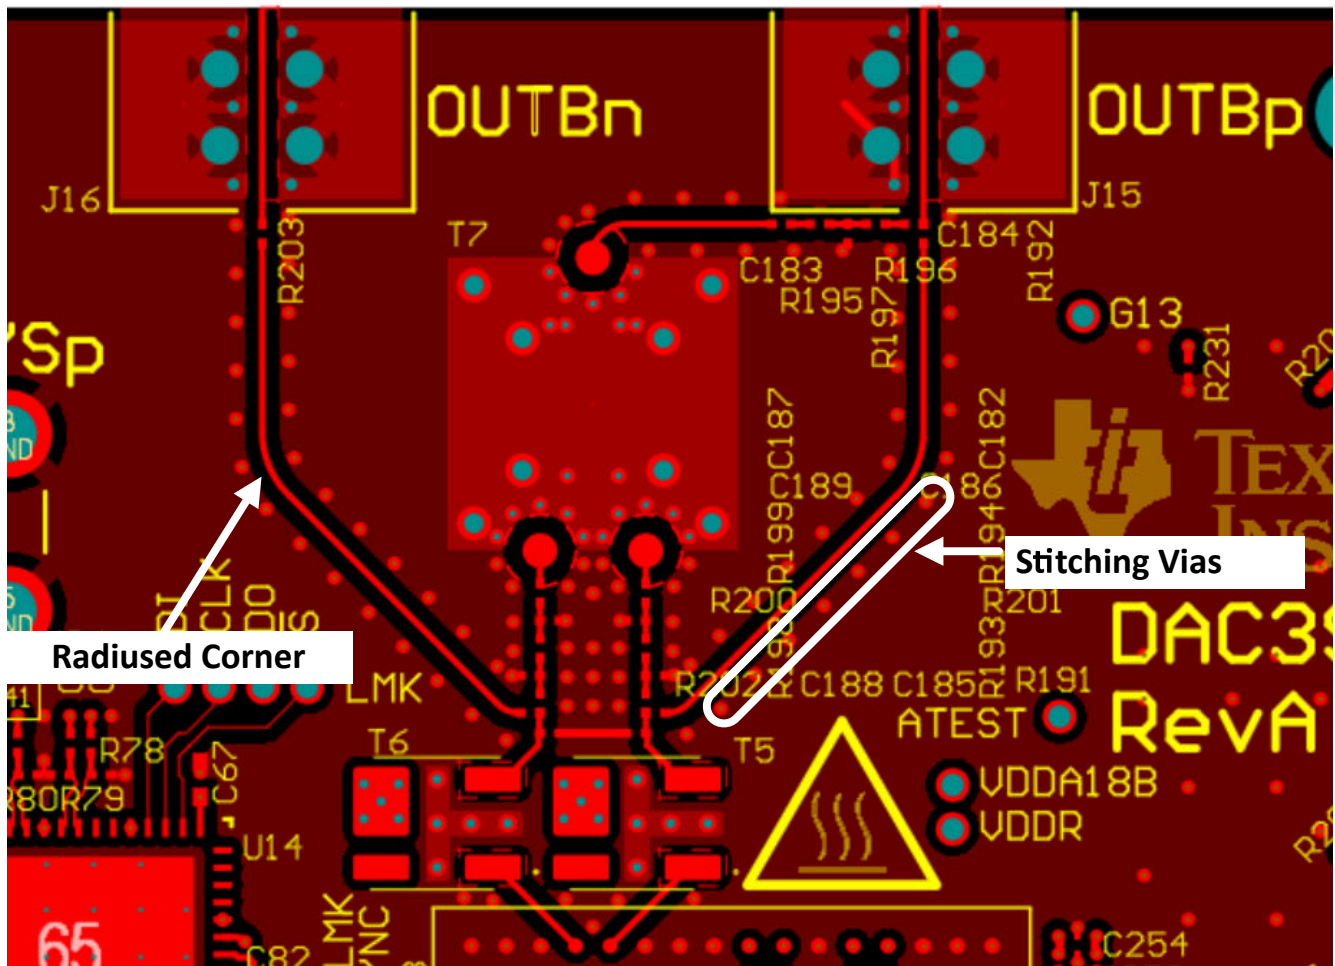

Figure 8-23. Radius Corner and Stitch Vias next to High_Speed Signal Trace
4. Use smoothly radiused corners and avoid 45- or 90-degree bends to reduce impedance mismatches on all high-speed inputs/outputs for both analog and digital signal traces. See Figure 8-23 as an example.
7. Provide symmetrically located ground tie stitching vias adjacent to any high-speed signal at an appropriate spacing as determined by the maximum frequency the trace transports ($\lambda/4$). See Figure 8-23 as an example.